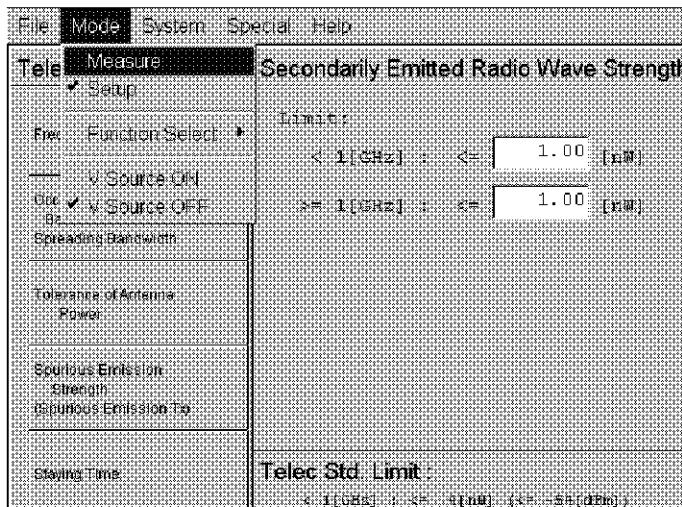

Figure 2-41 Switching from the Setup Mode to the Measure Mode
11. Click **Mode** on the main menu and select **Measure** from the drop down menu. The screen switches to the measurement screen (Refer to Figure 2-41).